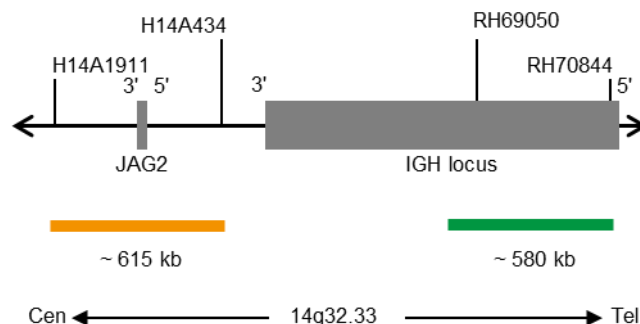

Fig. 1: SPEC IGH probe map (not to scale)
- ZyGreen (excitation 503 nm/emission 528 nm) labeled polynucleotides (~10.0 ng/μl), which target sequences mapping in 14q32.33* (chr14:106,690,778-107,268,412) distal to the IGH breakpoint region (see Fig. 1).
- ZyOrange (excitation 547 nm/emission 572 nm) labeled polynucleotides (~4.5 ng/μl), which target sequences mapping in 14q32.33* (chr14:105,296,741-105,909,611) proximal to the IGH breakpoint region (see Fig. 1).